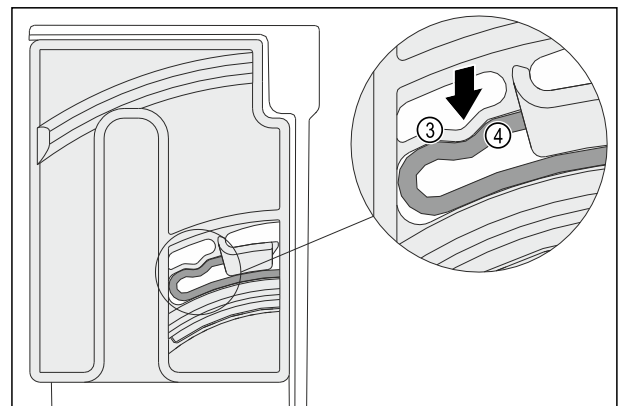

Fig. 141
- ▶ The elastic element Fig. 141 (3) of the turning unit audibly engages in the round shape of the rib Fig. 141 (4).